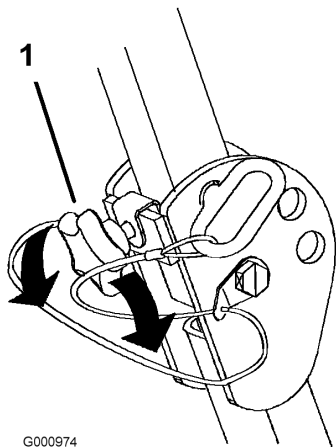

Figure 9
1. To lower the roll bar, loosen the front knobs (Figure 9).
Important: Tighten the front knobs against the center roll bar ends (Figure 9).